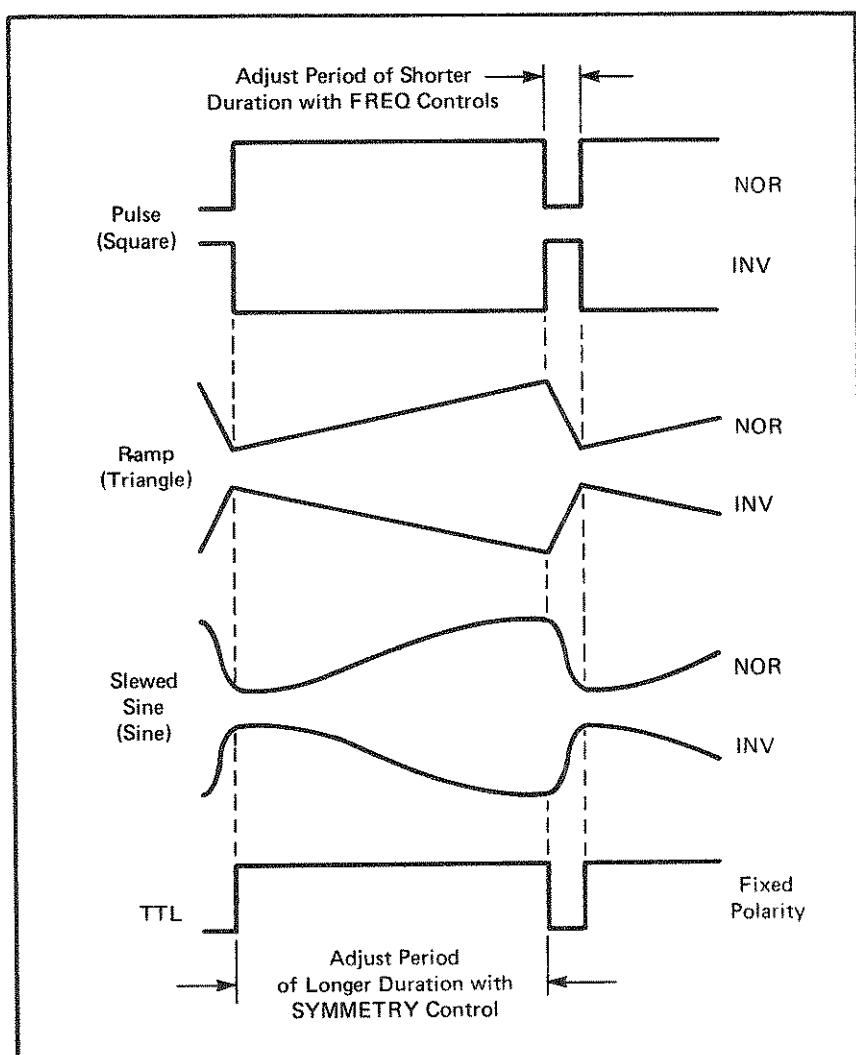

Fig. 5. Pulse, ramp, and slewed sine wave generation.
3. Select the desired polarity with the NOR/INV switch. See Fig. 5 for reference.